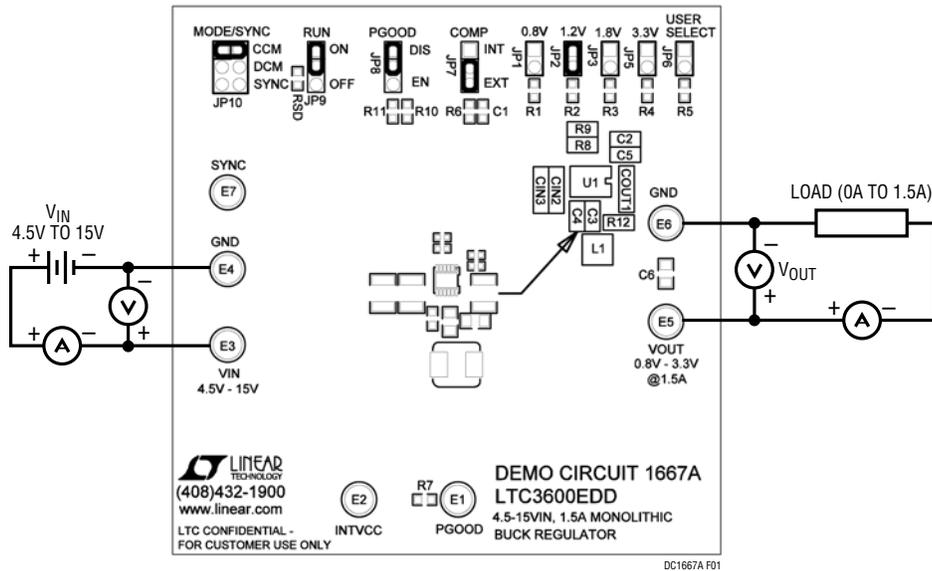

Figure 1. Proper Equipment Measurement Setup
Demonstration circuit DC1667A is easy to set up to evaluate the performance of the LTC3600. Please refer to Figure 1 for proper measurement equipment setup and follow the procedure below:
2. With power off, connect the input power supply, load and meters as shown in Figure 1. Preset the load to 0A and  $V_{IN}$  supply to 5V.